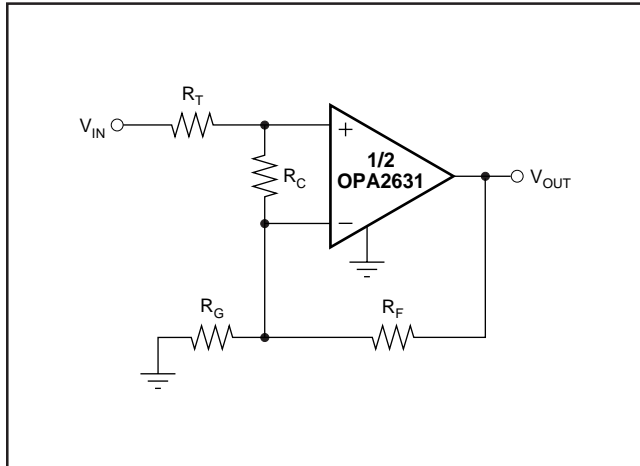

FIGURE 6. Compensated Non-Inverting Amplifier.
Figure 6 shows a non-inverting amplifier that reduces peaking at low gains. The resistor  $R_C$  compensates the OPA2631 to have higher Noise Gain (NG), which reduces the AC response peaking (typically 5dB at  $G = +1$  without  $R_C$ ) without changing the DC gain.  $V_{IN}$  needs to be a low impedance source, such as an op amp. The resistor values are low to reduce noise. Using both  $R_T$  and  $R_F$  helps minimize the impact of parasitic impedances.
Since the OPA2631 is a voltage feedback op amp, a wide range of resistor values may be used for the feedback and gain setting resistors. The primary limits on these values are set by dynamic range (noise and distortion) and parasitic capacitance considerations. For a non-inverting unity gain follower application, the feedback connection should be made with a  $25\Omega$  resistor, not a direct short (see Figure 6). This will isolate the inverting input capacitance from the output pin and improve the frequency response flatness. Usually, for  $G > 1$  application, the feedback resistor value should be between  $200\Omega$  and  $1.5k\Omega$ . Below  $200\Omega$ , the feedback network will present additional output loading which can degrade the harmonic distortion performance. Above  $1.5k\Omega$ , the typical parasitic capacitance (approximately  $0.2pF$ ) across the feedback resistor may cause unintentional band-limiting in the amplifier response.
The criterion for setting this  $R_S$  resistor is a maximum bandwidth, flat frequency response at the load. For a gain of +2, the frequency response at the output pin is already slightly peaked without the capacitive load, requiring relatively high values of  $R_S$  to flatten the response at the load. Increasing the noise gain will also reduce the peaking (see Figure 6).
tance can add a pole and/or zero below 500MHz that can effect circuit operation. Keep resistor values as low as possible consistent with load driving considerations. The 750Ω feedback used in the typical performance specifications is a good starting point for design. See Figure 6 for the unity gain follower application.